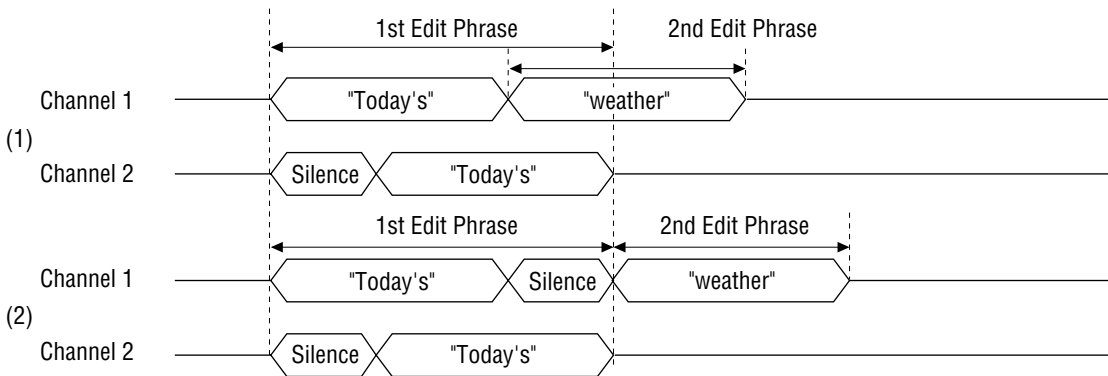

Figure 2 Example of Random Vocalization Timing
Random play requires the channel setting for the 1st and 2nd edit phrases to be the same. Random play cannot be used during channel 2 play or echo play without the use of the silence insertion technique shown in figure 10 item (2). Figure 2 item (1) shows the overlapping of the 2nd edit phrase in channel 1 with the echo playback of channel 2. Item (2) shows how silence is inserted after the 1st edit phrase in channel 1 to avoid overlapping of the 2nd edit phrase with channel 2 playback.